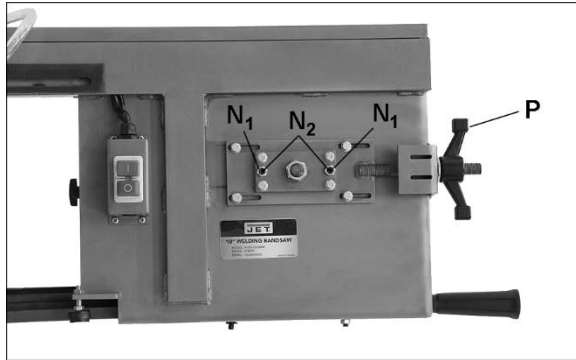

Figure 7-8: blade tension and tracking
5. Release tension on blade by turning tension handle (P, Figure 7-8) counterclockwise. Remove blade. (Use leather gloves when handling sharp blades).
Refer to Figure 7-8.
3. Turn blade tension handle (P, Figure 7-8) clockwise to tighten blade. Pluck the blade with your finger; a tensioned blade will emit a “twang” sound. As experience with the saw is gained, operator may develop a better feel for how tight to set a particular blade.
5. If blade is not tracking properly, loosen either of two hex nuts (N₁, Figure 7-8).